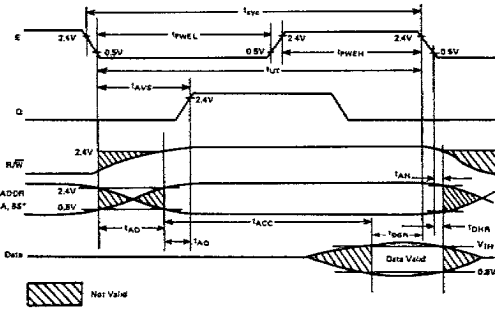

Figure 2 Read Data from Memory or Peripherals
Sixteen pins are used to output address information from the MPU onto the Address Bus. When the processor does not require the bus for a data transfer, it will output address $\overline{\text{FFFF}}_{16}$, $\overline{\text{R}/\overline{\text{W}}} = \text{"High"}$, and $\overline{\text{BS}} = \text{"Low"}$; this is a "dummy access" or $\overline{\text{VMA}}$ cycle. Addresses are valid on the rising edge of Q (see Figs. 2 and 3). All address bus drivers are made high impedance when output Bus Available (BA) is "High". Each pin will drive one Schottky TTL load or four LS TTL loads, and typically 90 pF.
This signal indicates the direction of data transfer on the data bus. A "Low" indicates that the MPU is writing data onto the data bus. $\overline{\text{R}/\overline{\text{W}}}$ is made high impedance when BA is "High". $\overline{\text{R}/\overline{\text{W}}}$ is valid on the rising edge of Q. Refer to Figs. 2 and 3.